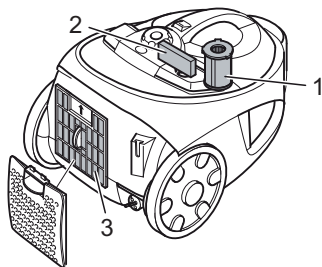

Fig. 18
■ **Central lamellae filter (Fig. 18/1)**
■ **Motor protection filter (Fig. 18/2)**
■ **Hygienic exhaust filter (Fig. 18/3)**